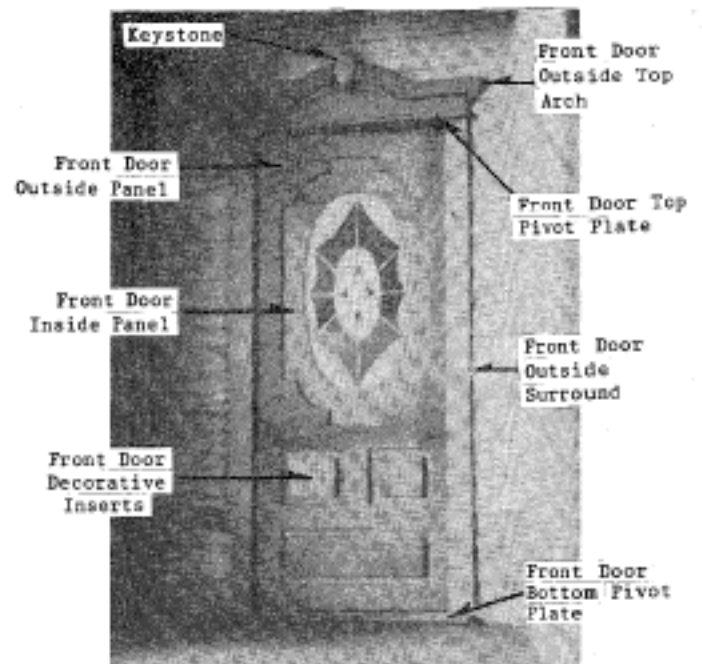

Figure 23
7. Dry assemble the door parts into the front door wall opening. To do this, tape the inside and outside front door surrounds centered on the front door wall opening. Fit the front door pivot pins into the top and bottom pivot plates. Slide doors and pivot plates into the doorway. If doors operate smoothly, then glue assembly together. Figure 23.